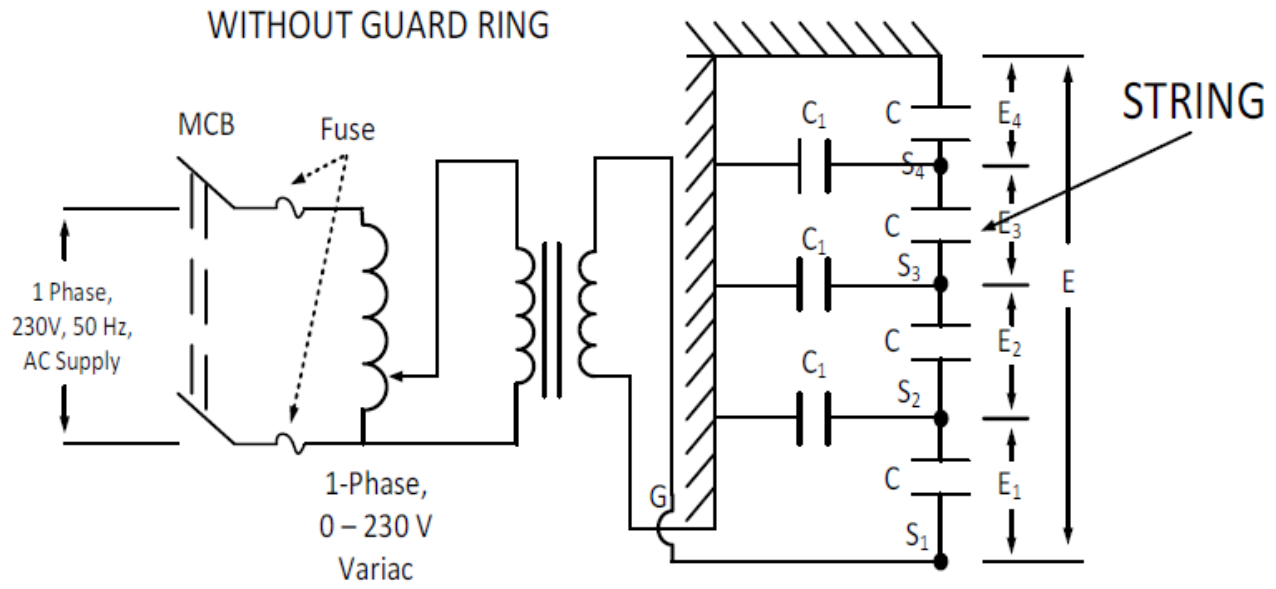

Fig 3: Without Guard Ring
1. Connect the circuit as per the Fig. 3. From one of the Variac output terminals connect to terminals S1 and other Variac output terminal to G as shown in Fig. 3.